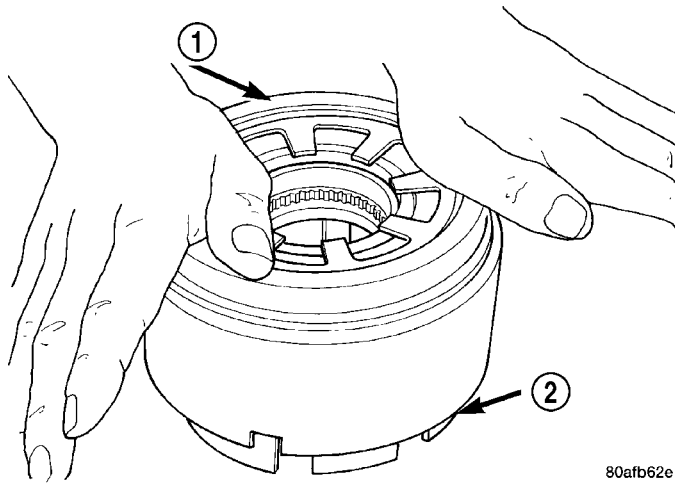

Fig. 217 Install OD/Reverse Piston
(4) Install the OD/Reverse piston assembly to the input clutch retainer as shown in (Fig. 217).